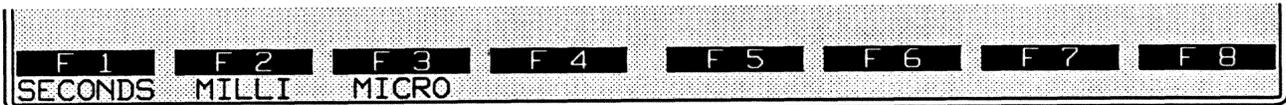

Figure 27-10 After a timer is named for printout display, a new softkey rack allows you to specify unit of time.
3. *Timer.* After the timer is named, a timer rate is selected from a new rack of softkeys as shown in Figure 27-10.